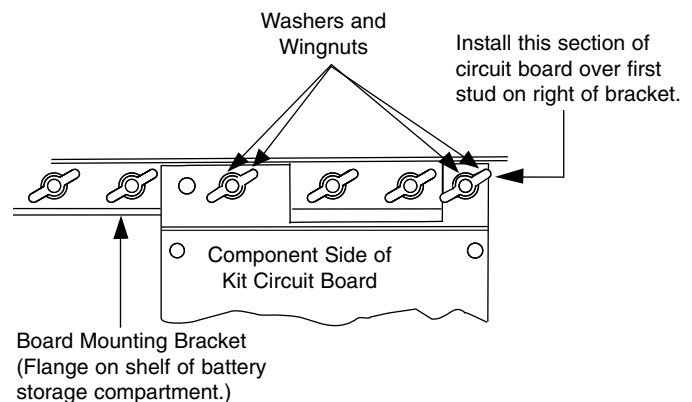

Figure 3.
7. With circuit board components facing out, install the board to the mounting studs (Figure 3). Secure board with the supplied wingnuts and washers. Tighten hardware securely.